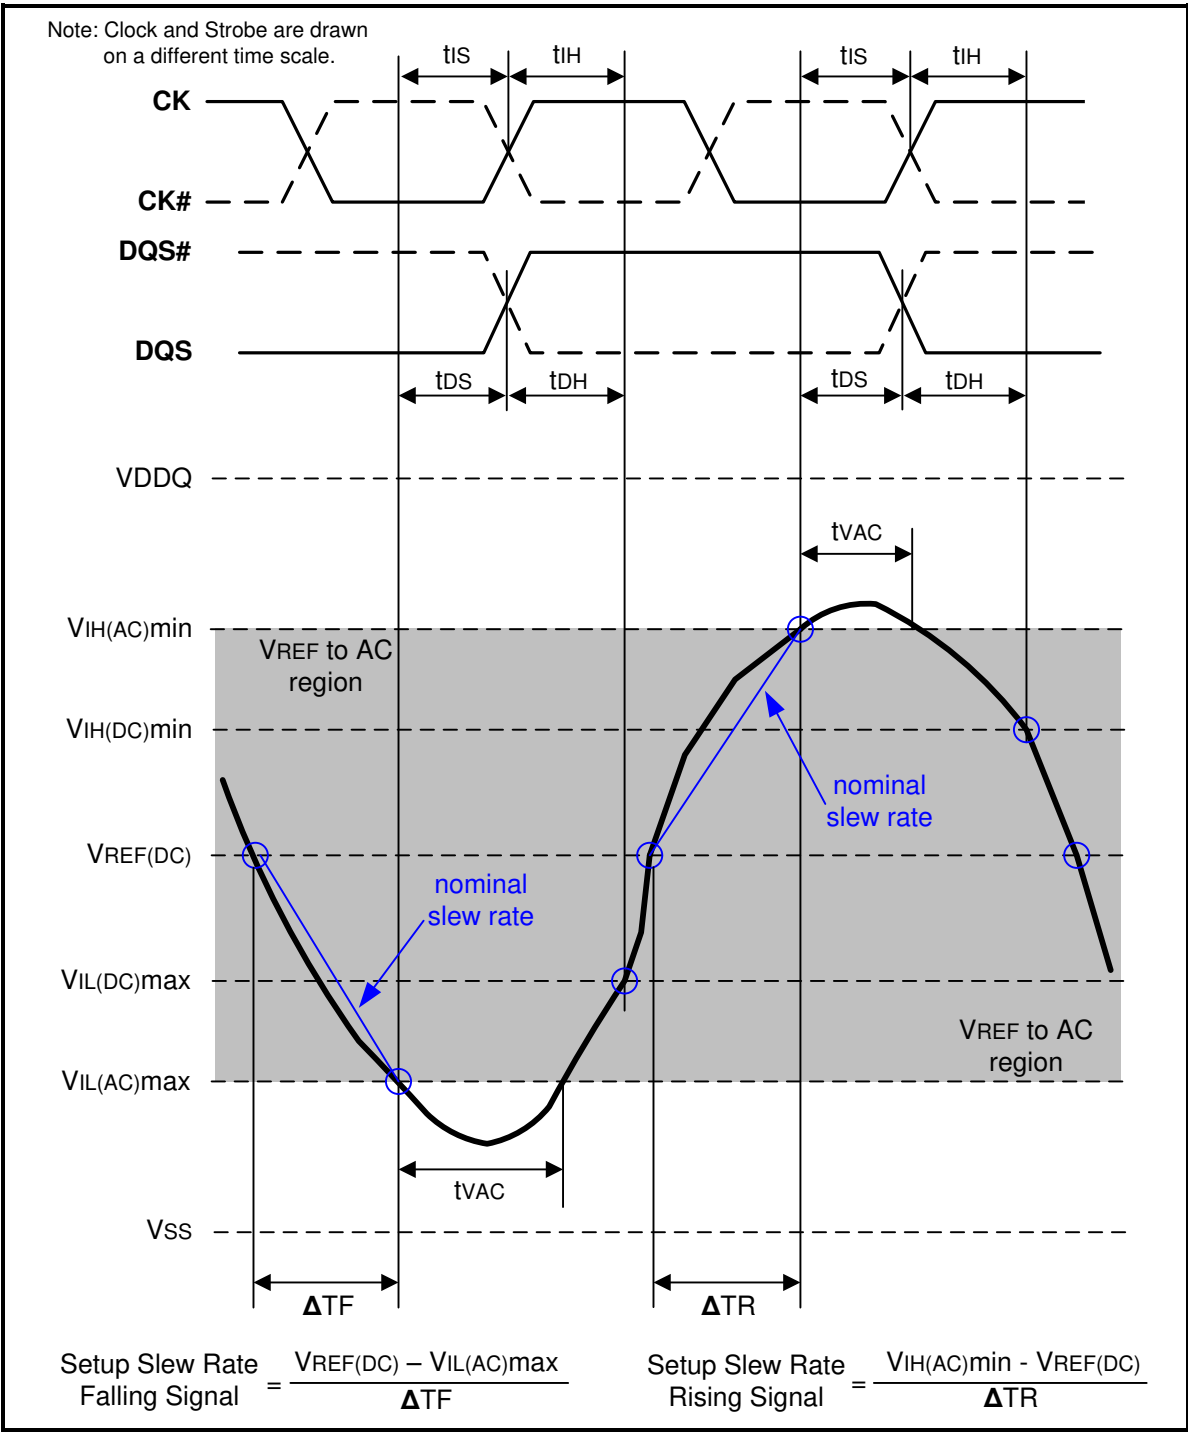
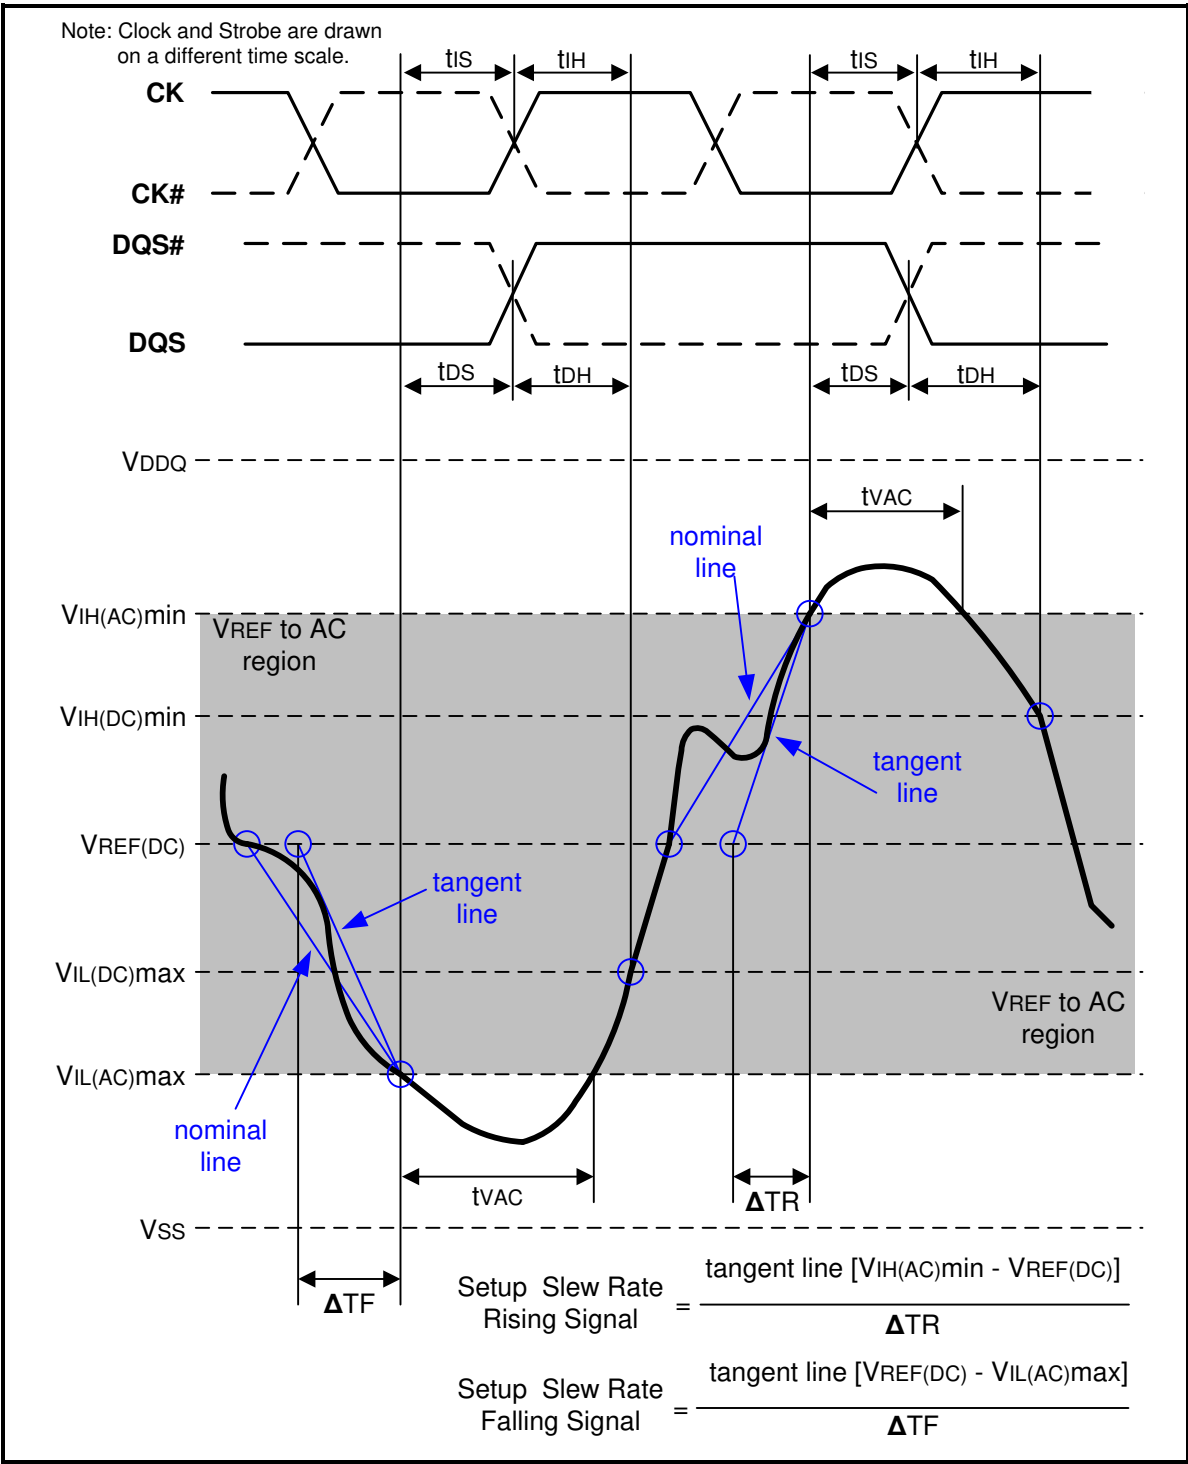

Figure 107 – Illustration of nominal slew rate and tvAC for setup time tDS (for DQ with respect to strobe) and tIS (for ADD/CMD with respect to clock)
Figure 109 – Illustration of tangent line for setup time tds (for DQ with respect to strobe) and tis (for ADD/CMD with respect to clock)
Setup ( $t_{IS}$ ) nominal slew rate for a rising signal is defined as the slew rate between the last crossing of  $V_{REF}(\text{DC})$  and the first crossing of  $V_{IH}(\text{AC})_{\text{min}}$ . Setup ( $t_{IS}$ ) nominal slew rate for a falling signal is defined as the slew rate between the last crossing of  $V_{REF}(\text{DC})$  and the first crossing of  $V_{IL}(\text{AC})_{\text{max}}$ . If the actual signal is always earlier than the nominal slew rate line between shaded 'VREF(DC) to AC region', use nominal slew rate for derating value (see Figure 107). If the actual signal is later than the nominal slew rate line anywhere between shaded 'VREF(DC) to AC region', the slew rate of a tangent line to the actual signal from the AC level to  $V_{REF}(\text{DC})$  level is used for derating value (see Figure 109).
Setup (tDS) nominal slew rate for a rising signal is defined as the slew rate between the last crossing of VREF(DC) and the first crossing of VIH(AC)min. Setup (tDS) nominal slew rate for a falling signal is defined as the slew rate between the last crossing of VREF(DC) and the first crossing of VIL(AC)max (see Figure 107). If the actual signal is always earlier than the nominal slew rate line between shaded 'VREF(DC) to AC region', use nominal slew rate for derating value. If the actual signal is later than the nominal slew rate line anywhere between shaded 'VREF(DC) to AC region', the slew rate of a tangent line to the actual signal from the AC level to VREF(DC) level is used for derating value (see Figure 109).